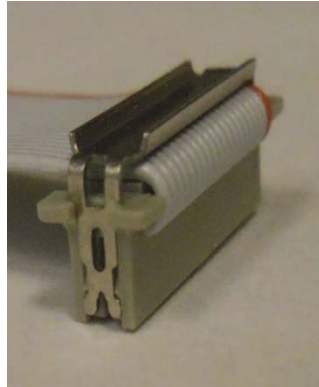

Figure 13
- 6.3 Press the strain relief down until the strain relief snaps into the correct position on the connector. (See Figure 13)